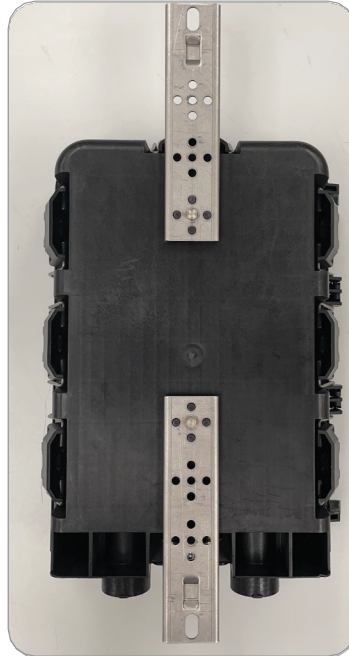

Figure 74
1. Attach the mounting brackets to the back of the terminal in their fully extended positions. (Figure 74)